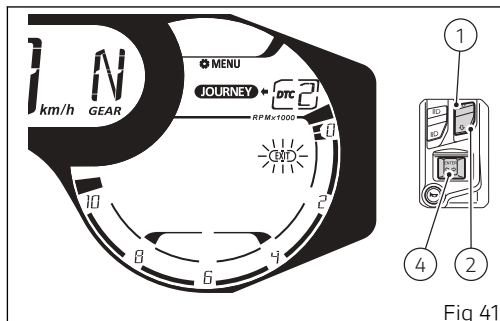

Fig 41
The instrument panel displays the new set level and "EXIT" with flashing frame (Fig 41). Now press button (4) to go back to previous display mode.